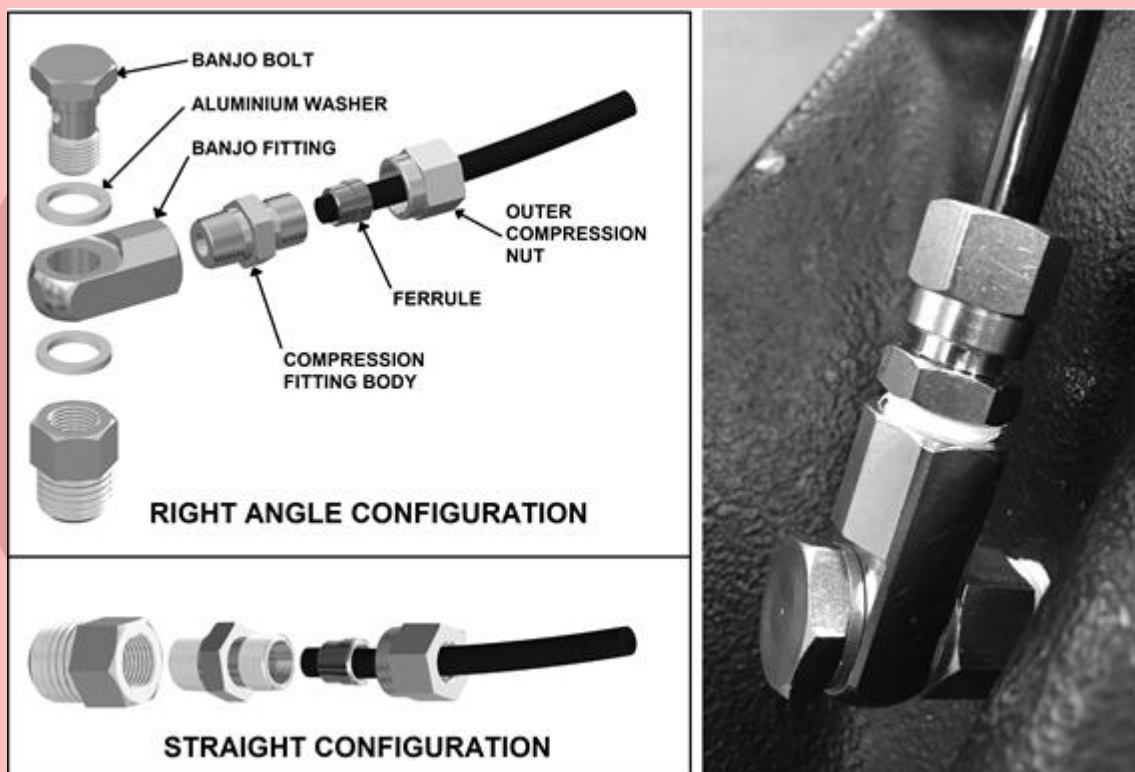

Figure 13. Air Locker bulkhead fitting assembly (170114)
- Insert the outer compression nut and ferrule over the air line. Ferrule should be oriented as per Figure 13.
- NOTE:** When right angle routing of the tube is not required, screw the compression fitting body straight into the bulkhead fitting body (Figure 13).